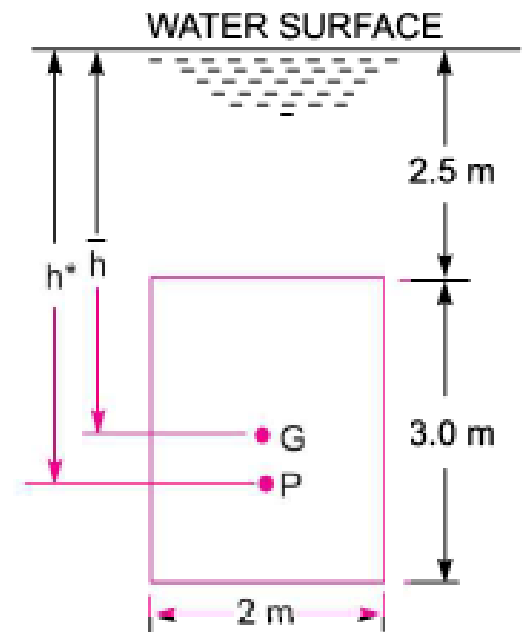

Fig. 3.3
(b) Upper edge is 2.5 m below water surface (Fig. 3.3). Total pressure (F) is given by (3.1)